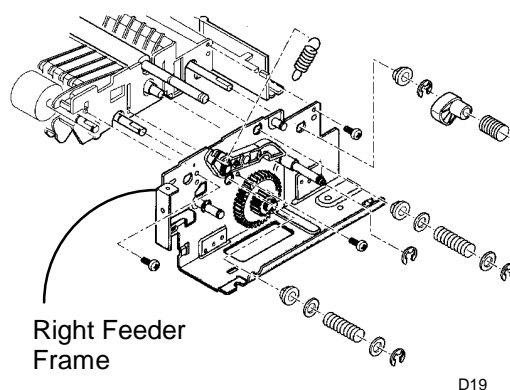

Figure 3. Removing the Feeder Frame
5. (Figure 3): Remove the remaining hardware and remove the Right Feeder Frame.